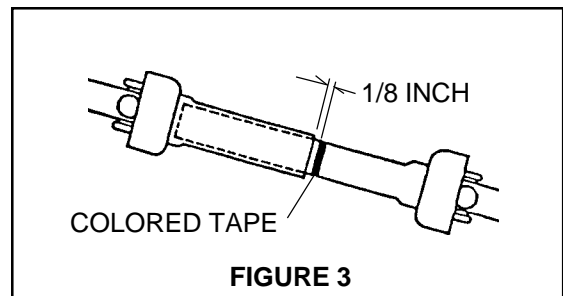

FIGURE 3
- * Apply colored tape to the Inner Shield 1/8" from the end of the Outer Shield. **FIGURE 3**
Gauge wheels are equipped with bushings which require grease daily. Grease Fittings are provided in the Wheel Hub and Gauge Wheel Pivot . Grease after 8 hours of use. **FIGURE 3.**